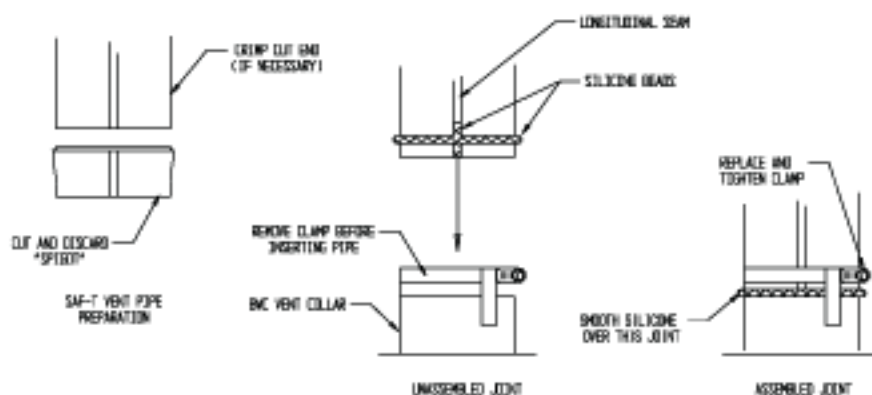

FIGURE 6.9: SAF-T VENT EZSEAL CONNECTION TO VENT COLLAR
- b) **Connection to Boiler** – Start assembly of the vent system at the boiler. Remove the hose clamp shipped on the BWC vent collar. Bend the three hose clamp tabs on this collar outward slightly. Cut the male “spigot” off of the first piece of pipe (Fig 6.9). If necessary, crimp the cut end of the pipe so that it can be inserted at least 1” into the collar. Clean the exterior of the male end of the first piece of pipe and the inside of the vent collar on the boiler with an alcohol pad. On the male end of the pipe, apply a ¼” wide bead of high temperature silicone approximately ½ inch from the male end of the pipe. Also apply a ¼” bead of silicone along the first 2 ½” of the longitudinal weld. Insert the male end of the pipe into the boiler vent collar until it bottoms out. Apply an additional bead of silicone over the outside of the joint and smooth out (Fig 6.9). Replace and tighten the clamp on the vent collar.